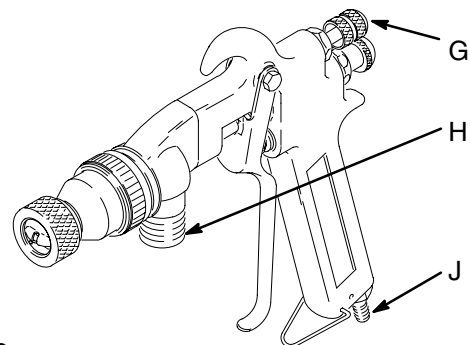

Fig. 8
**NOTE:** Refer to Fig. 8 and 9.
1. Setup – prepare a pail of warm, soapy water or solvent. Turn the gun's Air Control Valve (G) all the way in. Start the sprayer in the **OFF** mode.